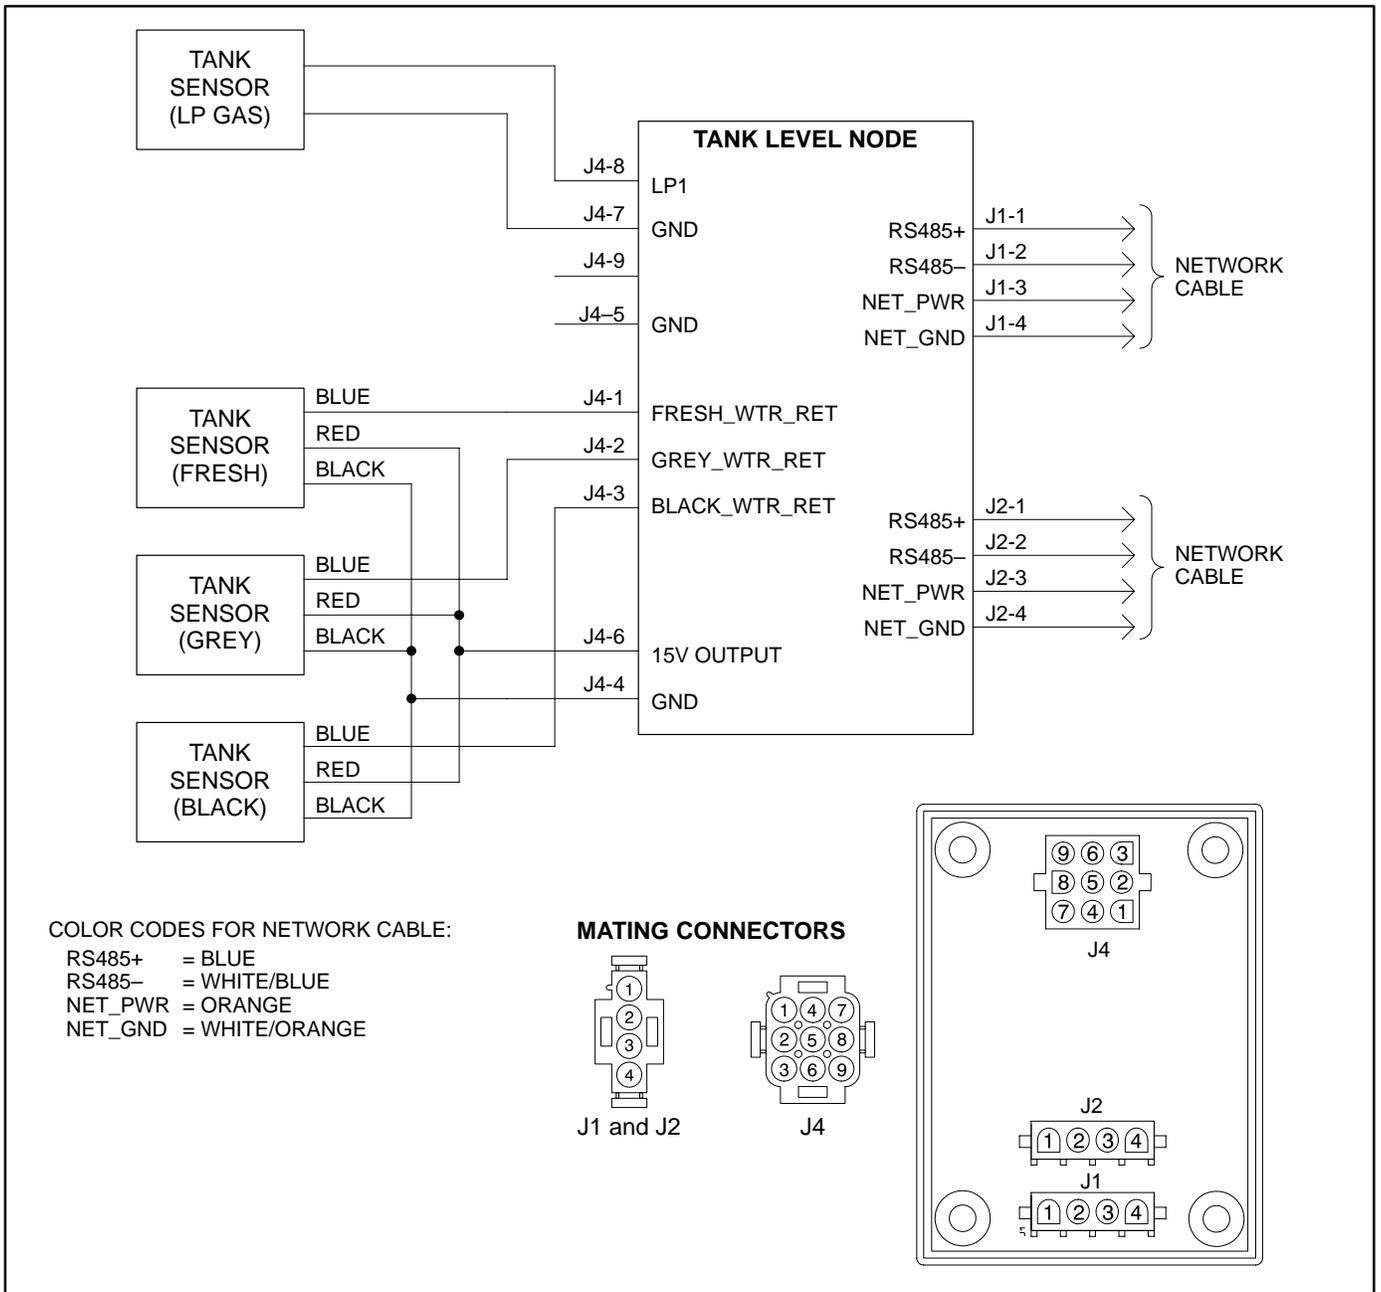

FIGURE 8-2. TANK NODE WIRING DIAGRAM – ACTIVE SENDERS
4. Refer to the wiring diagrams (Figure 8-2 for ac-